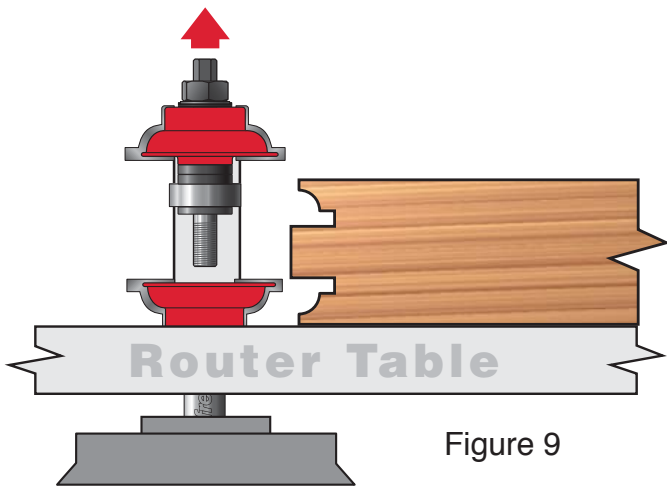

Figure 9
- Use the included wrench to remove the upper portion of the rail bit, as shown in Figure 9. Do not change the height of the router or the lower section of the router bit!